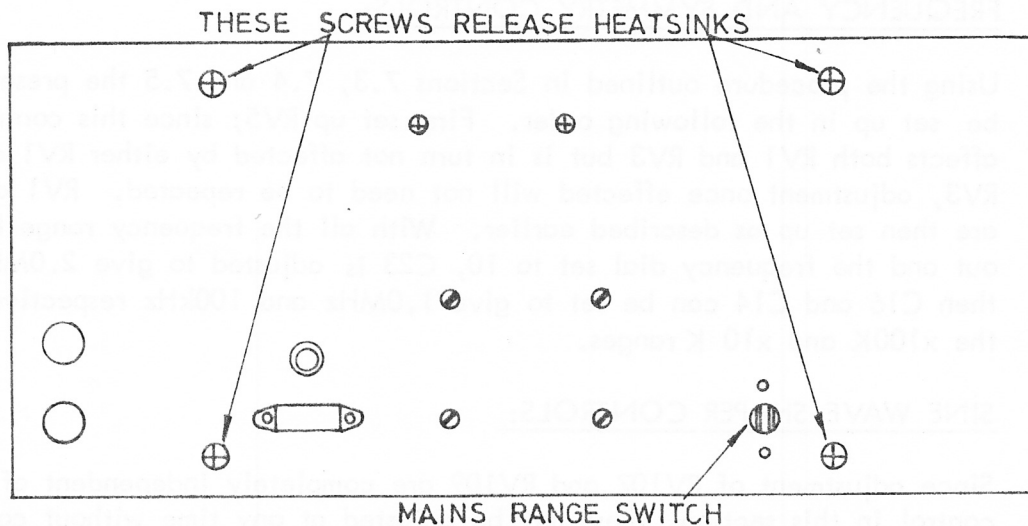

Fig. 8a. Rear Panel showing location of Heat sink securing screws.
- (a) The heatsinks are secured to the rear panel by two screws the heads of which are visible from the rear of the unit. See fig 8A. Before removing these screws, first remove the top cover (8.1(a)) and unplug the lead(s) from the heatsink that is to be removed.